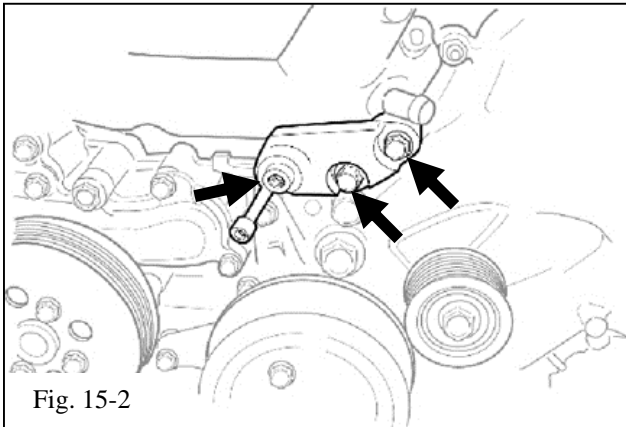

Fig. 15-2
- (b) Bolt the idler pulley bracket (Item G1) to the front engine timing chain cover using the 2 supplied M10 bolts (Item G3) and the M8 Allen socket head bolt (Item G5) (Fig. 15-2).